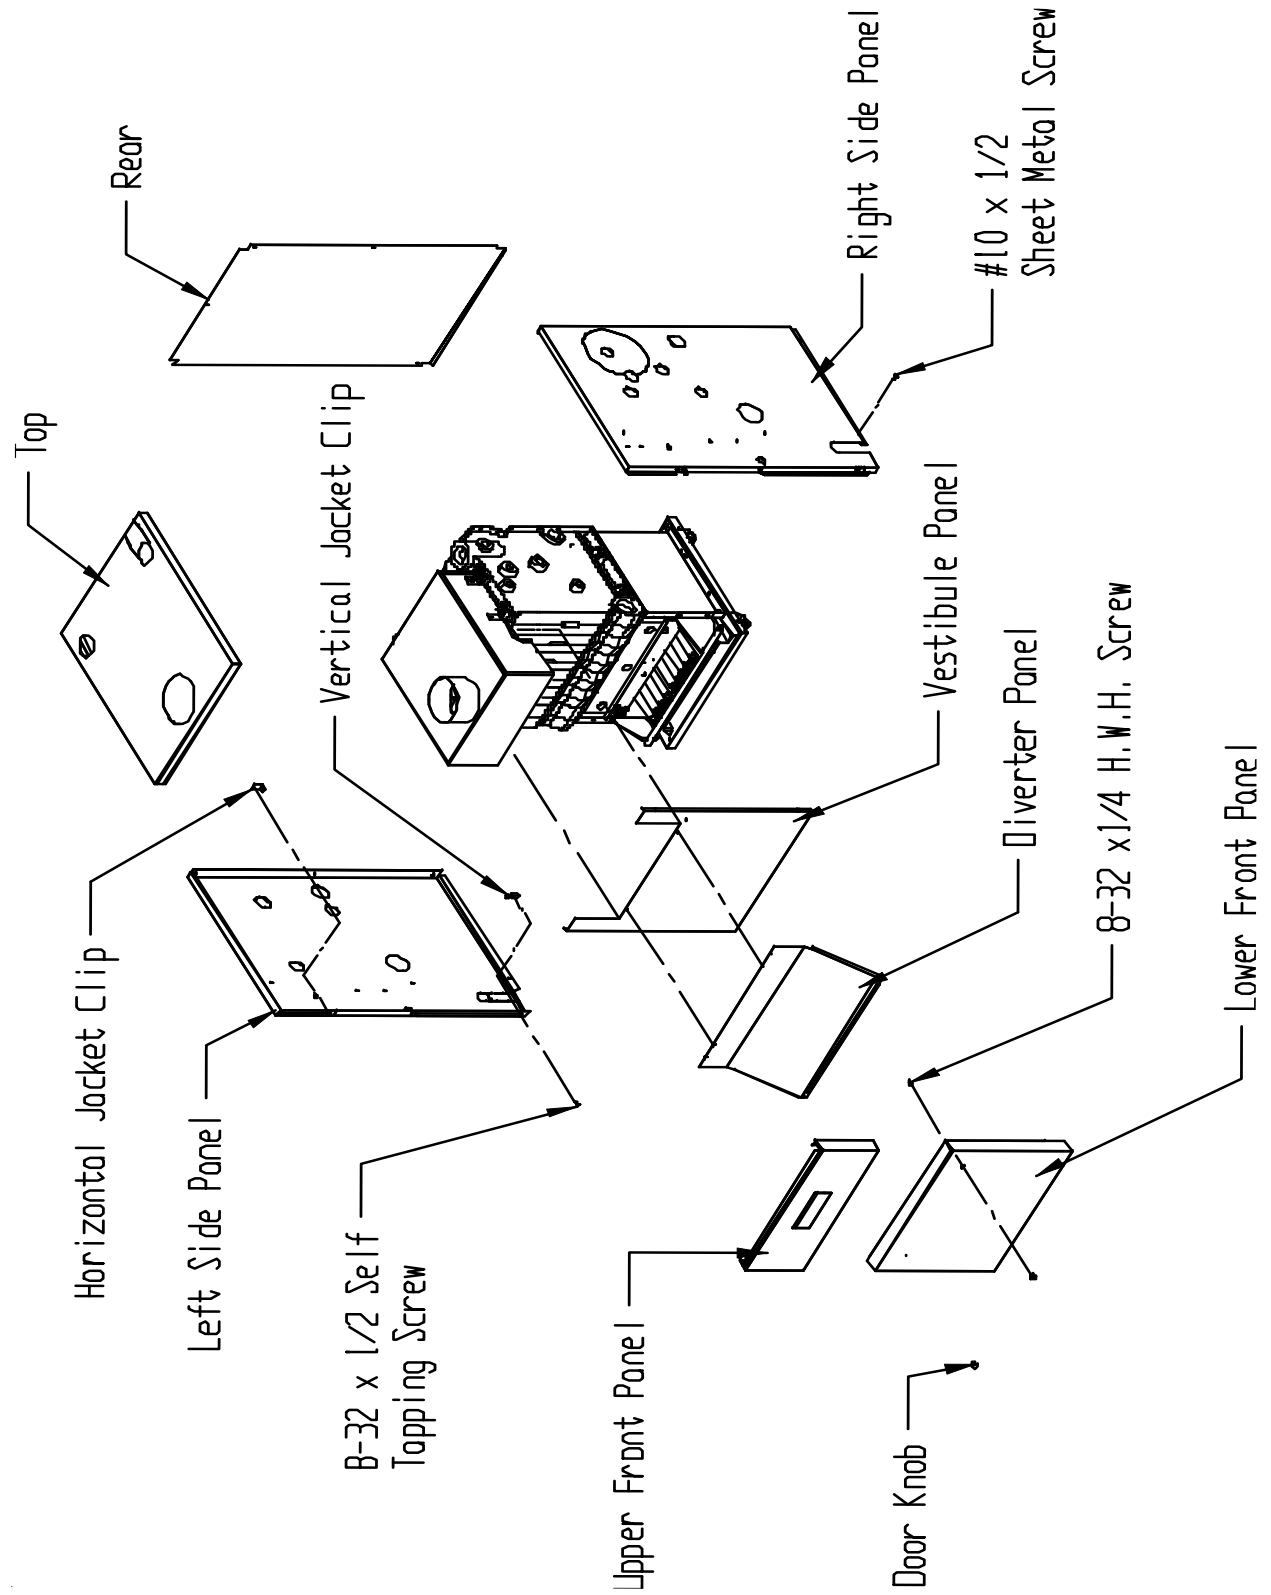

FIGURE A2: JACKET INSTALLATION
- 2) Slip this diverter/vestibule panel assembly behind the draft diverter opening in the draft diverter assembly (Figure A2). Attach to the diverter assembly using #10 sheet metal screws.